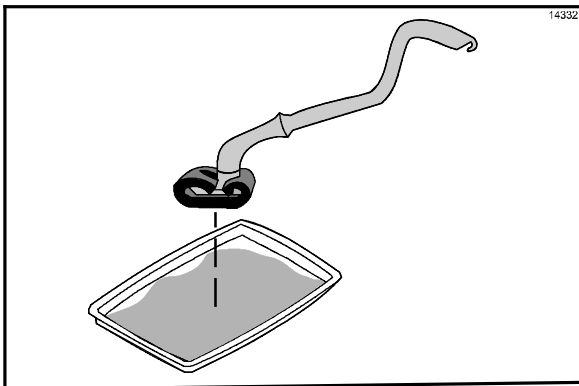

Figure 86
14. Dip the Kay Grill Cleaning Pad Holder into the grill cleaner. (See Figure 86.)